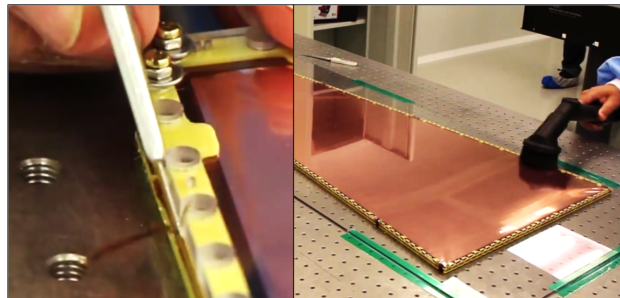

Figure 89: Adjusting the cut and cleaning the stack.
Step 4: Finally, check the quality of the cut around the stack and adjust if necessary (Fig. 89 left). The remaining piece of Kapton that exceeds the frame stack should not be longer than a fraction of millimeter. Use the vacuum cleaner to remove the possible shavings left after cutting (Fig. 89 right).